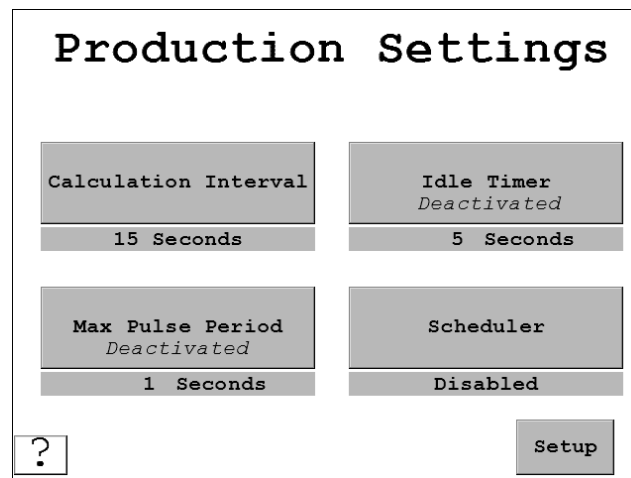

Figure 3-16. Production Settings Screen
- If the machine's production rate is measured in distance travelled per unit of time (e.g., powder paint line, continuous plating line, etc.) and you have set Production Rate Units to "Feet/Minute," "Feet/Hour," "Meters/Minute," or "Meters/Hour" (see *Configuring the Cycle Input for a Production Rate*, page 46), select the "Instantaneous" setting in the Production Settings screen (see Figure 3-16).